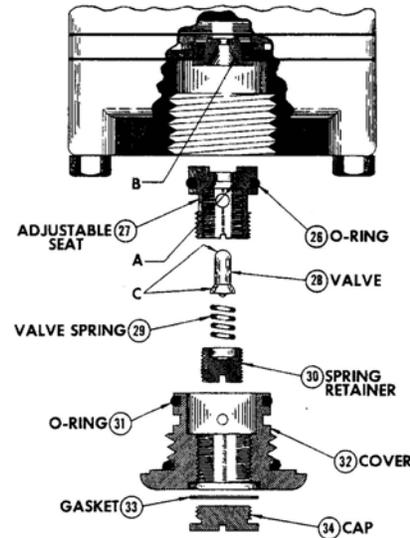

Figure 3
If the control pressure does not go to minimum output pressure or zero, or if the exhaust appears to be leaking, see Figure 3 and follow the instructions below:
Relays are factory adjusted do not require any adjustments when installed. However, relays that have been rebuilt will require adjustment. To adjust the relay refer to Figure 3 and follow the instructions below:
If the procedure outlined in Section IV fails to restore proper operation, refer to Figure 3 and Figure 4, 5 or 6, as applicable, and follow the instructions below:
2. Inspect the Valve (28) surfaces for bumps, scars or other irregularities. The Hemispherical Surfaces (C in Figure 3) must be smooth and regular.
3. Inspect the Valve Seats (A and B in Figure 3). The surfaces must be clean and smooth with no scars or surface irregularities.